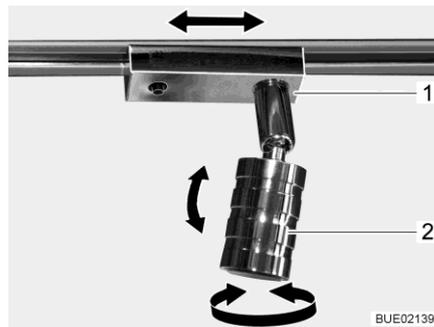

Fig. 28 Spotlight
**Turning spotlight:** ■ Turn housing (Fig. 28,2) of the spotlight to the desired direction. The housing can be turned in following directions:
**Shifting spotlight:** ■ Turn socket (Fig. 28,1) through approx. 45°. ■ Shift spotlight along the rail system to the desired position. ■ Turn socket back.
**Removing spotlight:** ■ Turn socket (Fig. 28,1) through 90°. ■ Remove spotlight from rail.